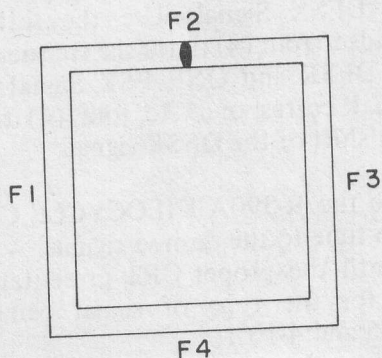

Figure 4-13.—F2 Peaked.
l. Rotate the BFO MICRODIAL counterclockwise until the dot returns to the center of the CRT. Now rotate the F2 DEFL GAIN clockwise until the dot is slightly off the center of the CRT. Adjust the MICRODIAL and F2 DEFL GAIN until the dot is between the upper horizontal lines of the CRT DISPLAY (see figure 4-13). Note the BFO MICRODIAL reading at the F2 peak point. This represents an input frequency of 5kHz.